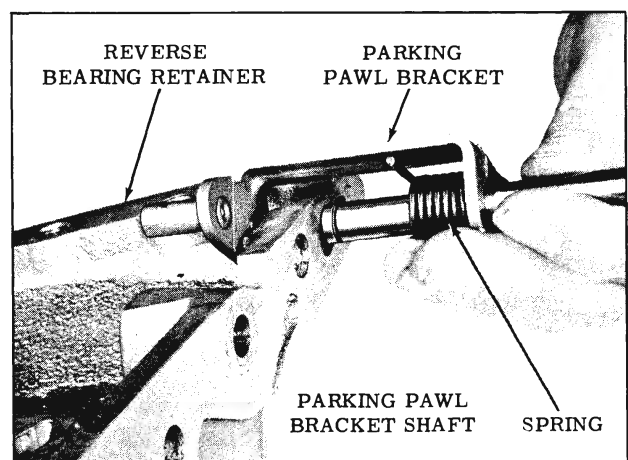

Fig. 3-270 Installing Parking Pawl Bracket
5. Install the parking pawl bracket, shaft and spring into bearing retainer and install two "E" rings on shaft. (Fig. 3-270)